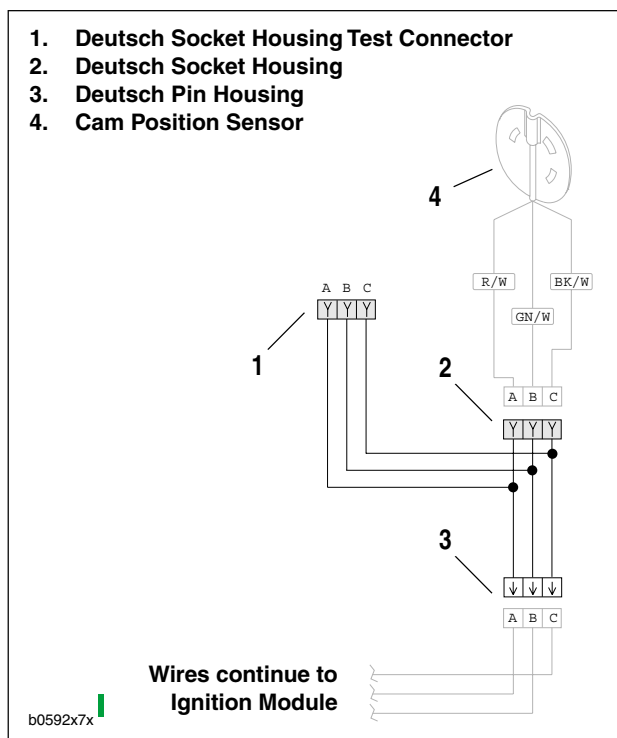

Figure 7-94. Testing Tachometer
1. See Figure 7-94. Connect the speedometer tester to the cam position sensor Deutsch socket housing.